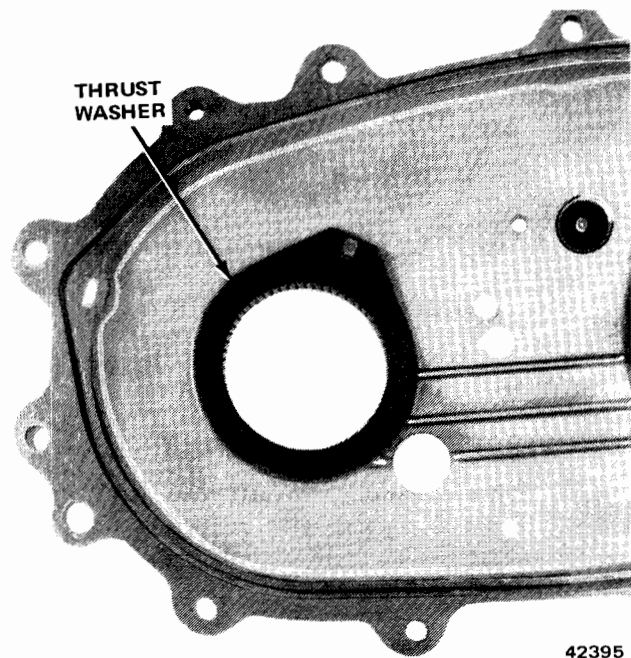

Fig. 8-44 Drive Sprocket Thrust Washer In Position on Case Cover
(4) Insert rear output shaft into differential.
(5) Move lockup hub rearward in case cover. Lubricate drive sprocket thrust washer with petroleum jelly and position on case cover (fig. 8-44).
(6) Align and position case cover on drive sprocket and differential. Output shaft may require slight rotation to align with lockup hub. Be sure drive sprocket thrust washer is not displaced.
(7) If equipped with reduction unit, install pinion cage on drive sprocket rear splines. Be sure snap ring seats completely in groove.
(8) If not equipped with reduction unit, assemble drive hub, drive sleeve, and snap ring, and install on drive sprocket rear splines. Be sure snap ring seats completely in groove.